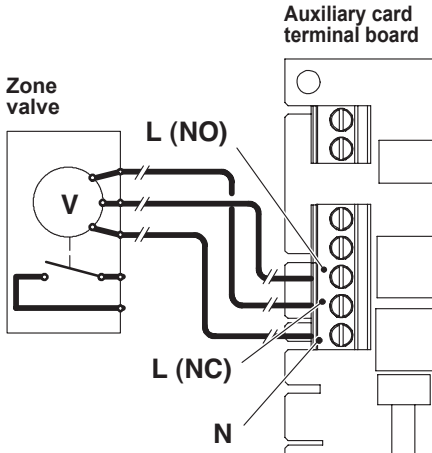

Fig. 6.27
For the connection of the zone valve use the terminals from the auxiliary card **N** (common neutral), **L (NO)** line 230V ~ (valve opens heating system), **L (NC)** line 230V ~ (valve closes heating system) Fig. 6.27.